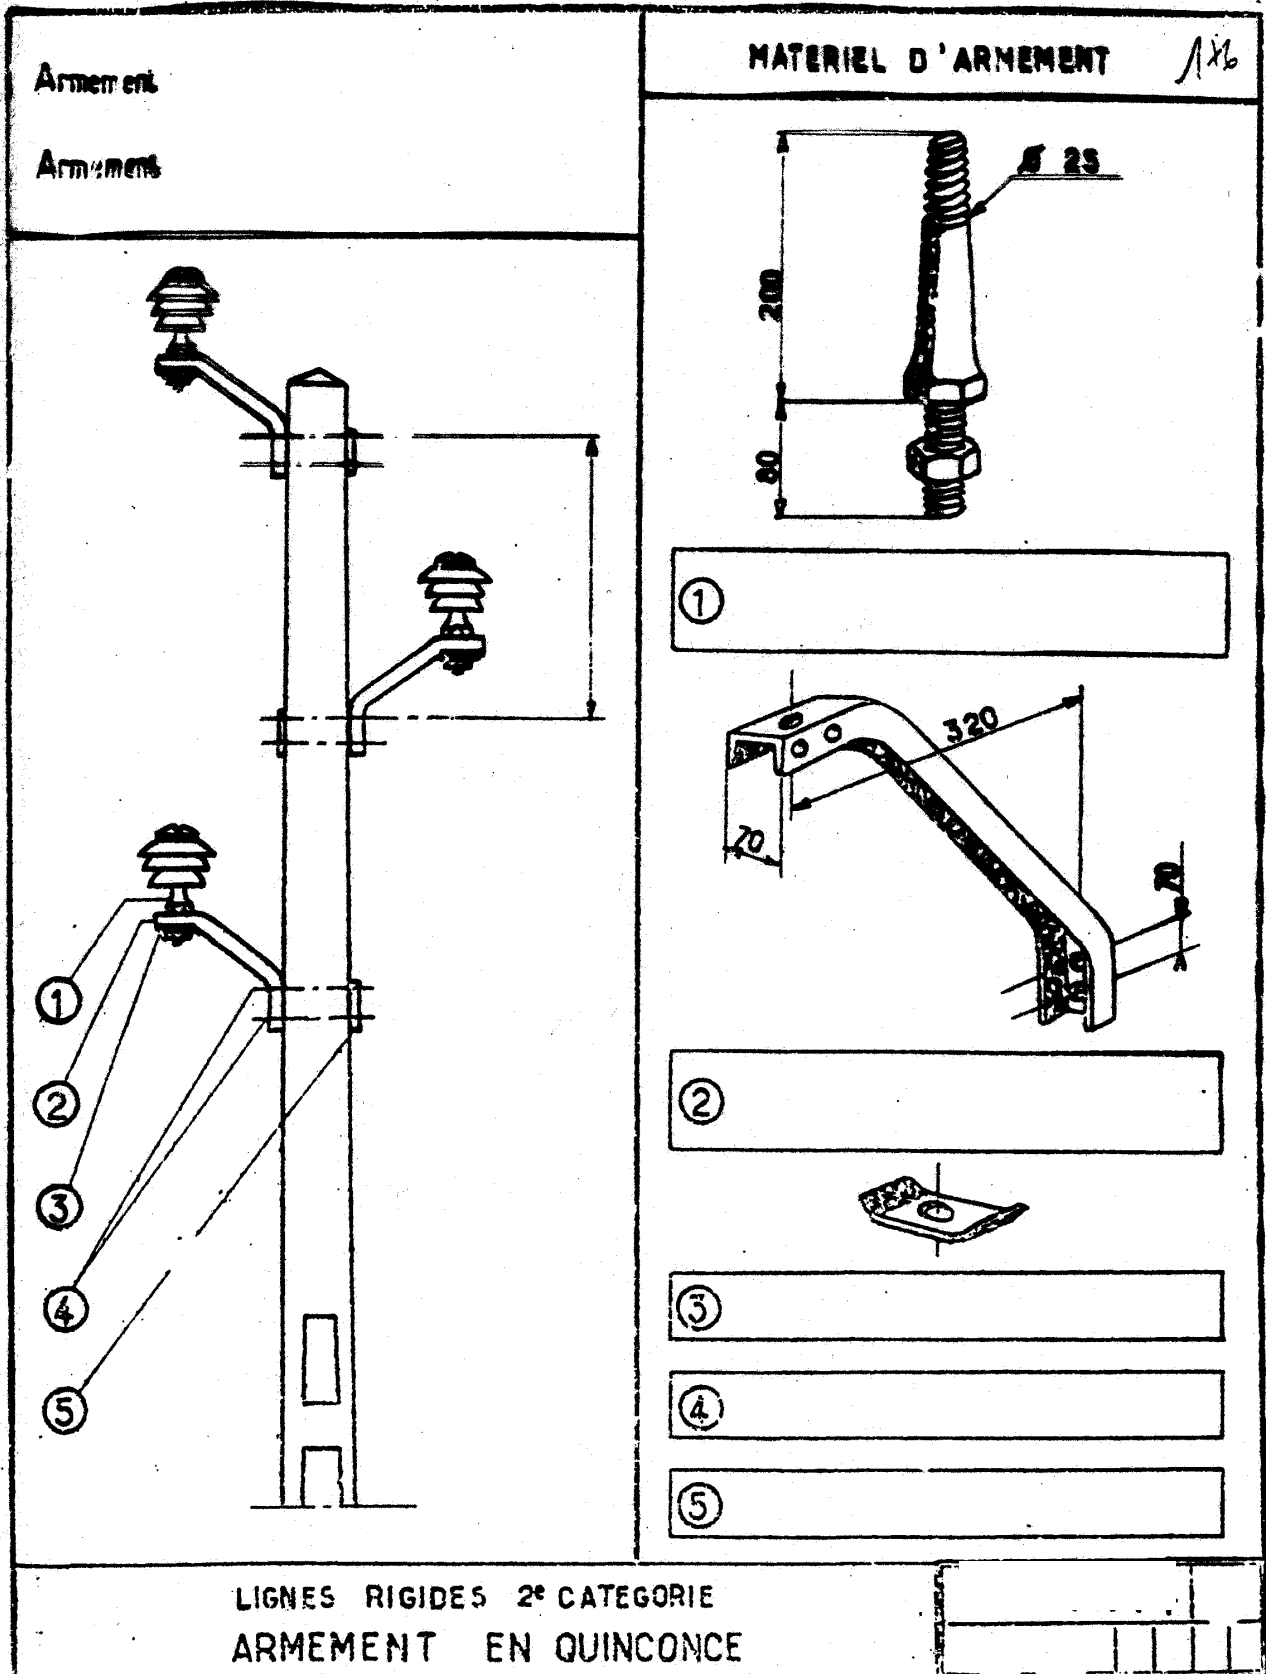

Figure 4
b) Armement quinconce (figure 4)